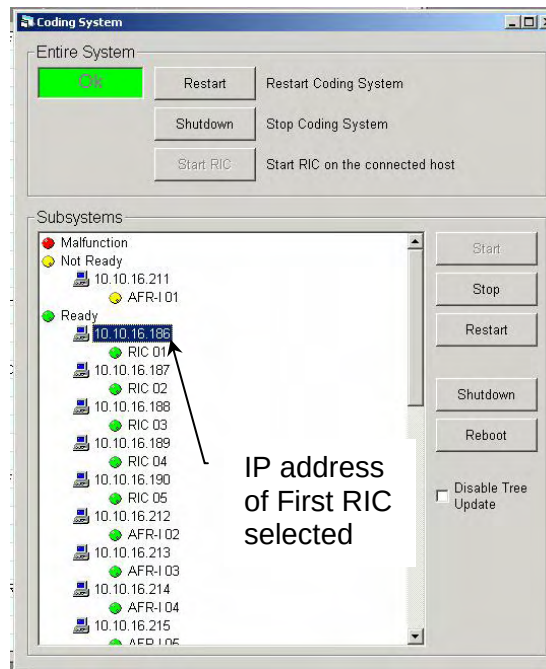

Figure 1-133. Start/Stop Window with First RIC Computer Selected
- In the "Subsystems" pane, identify the First RICs (RIC 01) IP address and highlight it by clicking once on it (Figure 1-133).